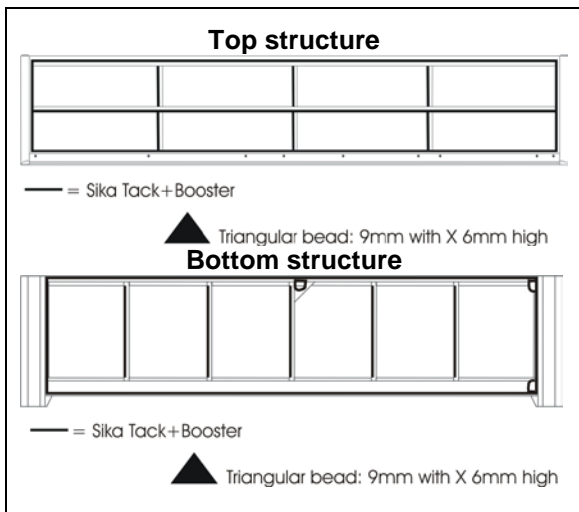
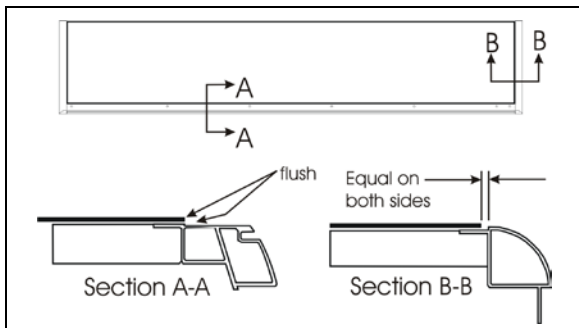
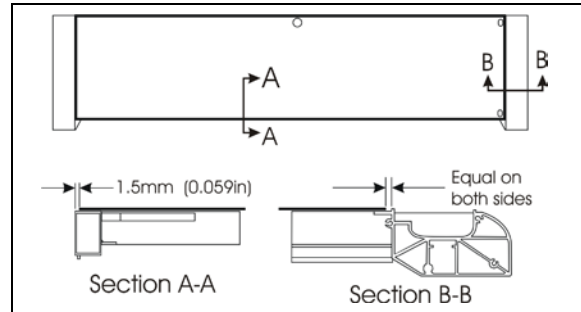

FIGURE 47: TOP AND BOTTOM PANEL INSTALLATION - SIKA TACK+BOOSTER APPLICATION
FIGURE 48: TOP PANEL INSTALLATION
FIGURE 49: BOTTOM PANEL INSTALLATION
4. Apply Sika Tack+Booster (triangular bead: 9mm width X 6mm high) has shown in figure 47 and glue panel in place as shown in FIGURE 48 & FIGURE 49.